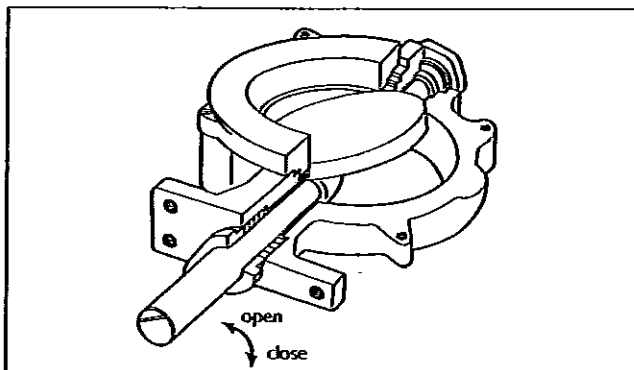

Fig. 12. The contact line between the disc and seat ring
The marking line parallel to the disc on the valve shaft head shows roughly the closed position of the disc (see Fig. 12).
- Check the position between the seat ring and the disc. The valve closes clockwise (see Fig. 12).
- Press the shafts into the disc drillings. Align the pin holes. The shaft (11) position against the disc must be according to Fig. 12.
- Install the gasket (18) and the blind flange (10). Screws of the blind flange must be tightened evenly. An unevenly tightened flange will damage the seat.
- Install the body seal (19) and the clamp ring (2). See details in Section 5.4.
- Check the contact line between the seat ring and the disc (see Fig. 12).